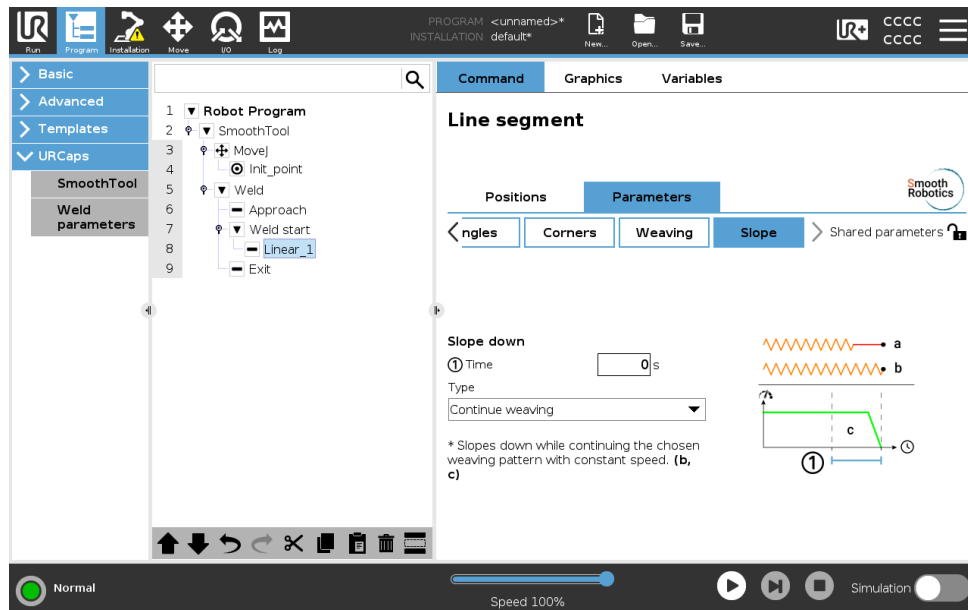

Figure 10.2: The slope parameters with weaving
- If *Continue weaving* is enabled weaving will continue while the slope down is happening see figure 10.2.